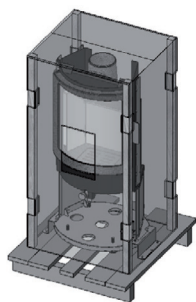

FIG. 1 - STRIPE PACKAGE
- One contains the structure of Fig. 1.